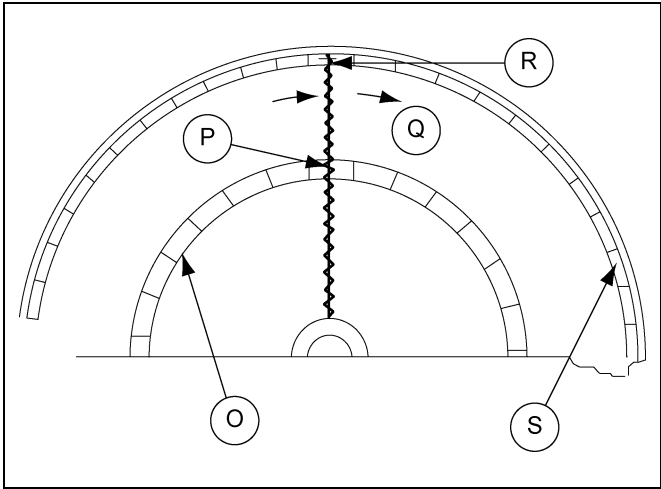
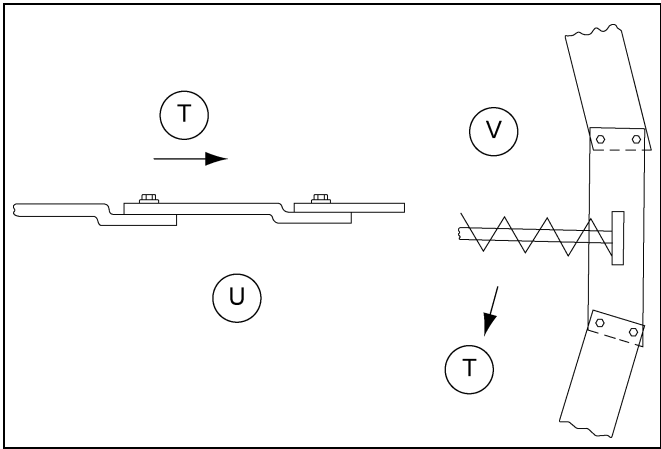

Figure 5X
Figure 5Y
For intermediate sump, place the sump on the discharge tube so the slide gate is pushed toward the center of the bin to open it. Install the sump with 52" between the bin wall and the intermediate sump. For 18' to 24' diameter bins, the intermediate sump will have to be installed closer to the bin wall so it will not interfere with the auger wear plates. Use the floor augers as guides to determine the position of the wear plates. (See Figure 5X on Page 28.)
21. Use the floor auger to position the wear plates locating them so the drive wheel and center support feet will not hit the anchoring screws or rivets. Bin sizes 36' 1" and larger will use two (2) sets of inner wear plates. The wear plates are to be overlapped so the drive wheels can move over them without tearing them loose from the floor. Secure the plates to the floor with either 3/16" aluminum rivets. (See Figure 5X and Figure 5Y.)